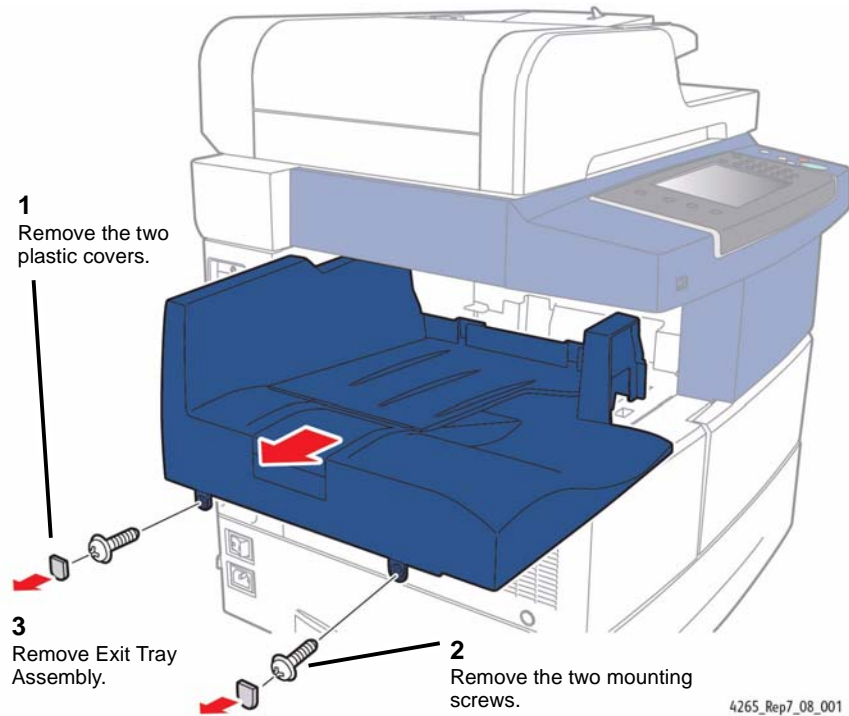

Figure 1 Removing the Exit Tray Assembly
2. Remove the Exit Tray Assembly (Figure 1).